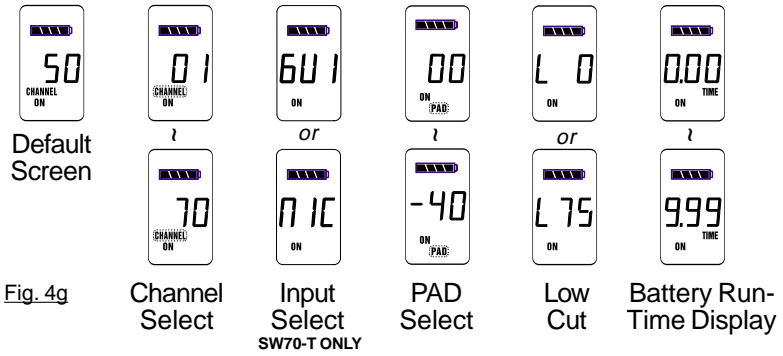

Fig. 4g
When the transmitter is first turned on, it shows an initial test screen (Fig. 4f), followed by the default screen (Fig. 4g). The LCD also reverts to this default display within a few seconds after any programming changes are made with the recessed controls. The default LCD display always shows transmission channel, audio level, and battery voltage level; additional information will appear to indicate important changes caused either by user adjustments, or automatically as transmitter status changes.
**PARAMETER VALUE:** In default mode this indicates the RF TRANSMISSION CHANNEL chosen for the transmitter. In conjunction with the Select button (see figures 4b & 4c), this field will also display battery run-time hours, or when a low frequency roll-off filter or an attenuation (pad) is active (see Fig. 4g).
1. All transmitters report two types of battery status information. The first report is the all-important voltage the battery is supplying. Second, you'll know how long the battery has been in use (battery run time hours). Each receiver channel also receives telemetry information from its associated transmitter, regarding the battery voltage, and displays the information in the receiver LCD (see figure 5b). When the voltage reaches a level indicating an estimated 30 remaining minutes of useful battery life, both transmitter and receiver automatically flash warnings in their LCD displays. As an alternative means of anticipating battery depletion, you can check the number of hours of use, by checking the transmitter LCD display (see Section 4.2.2 and figure 4g), or the Remote Control Software.